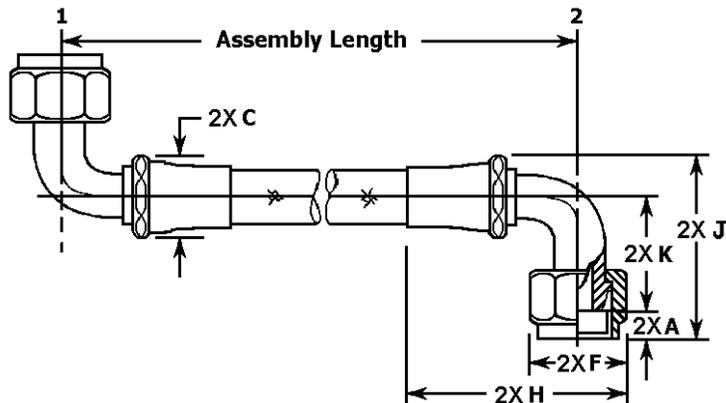

FIGURE 12. Style N hose assembly.
- 2/ Dimensions are shown on figure 12.